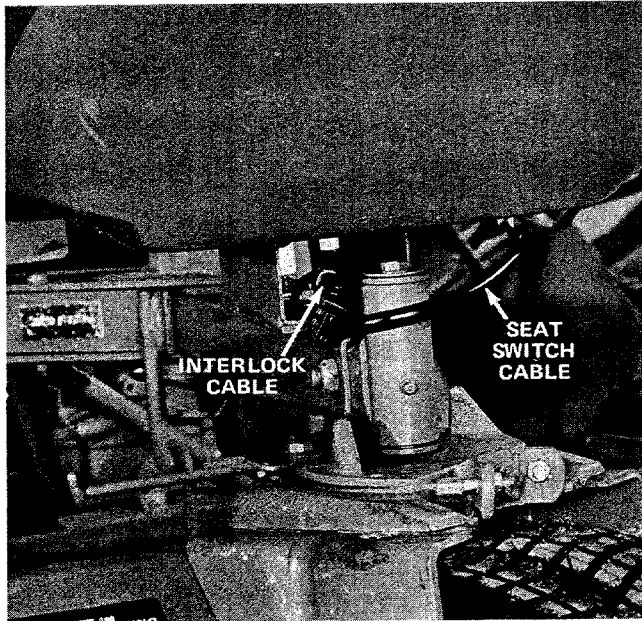

Figure 6
7. Connect switch cable to interlock cable (Fig. 6).